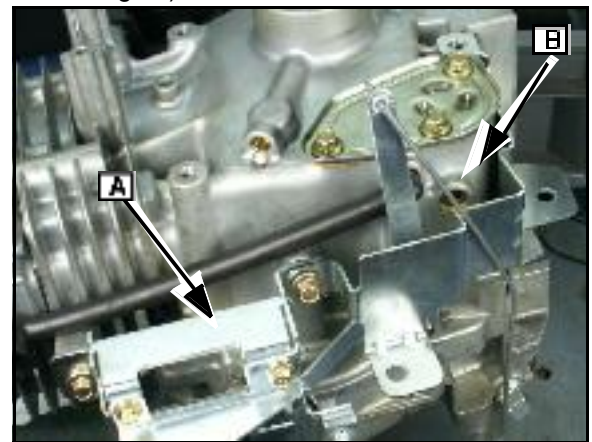

Fig. 25
4. With the governor lever in position, loosely install both control brackets ([A & B] Fig.25).